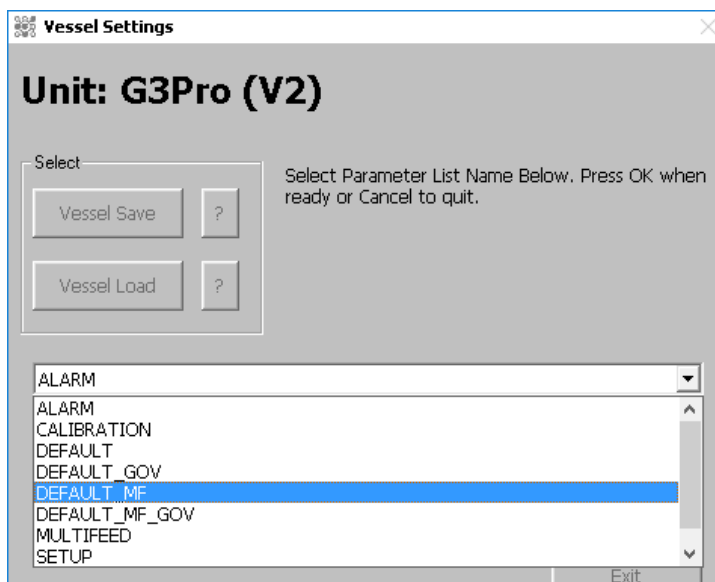

Figure 4.78. Default_MF file selected from drop-down menu.
3. Click **Vessel Save** again, select the “Default_MF” file (Figure 4.78). Select a name according to facility protocol and save the default file.